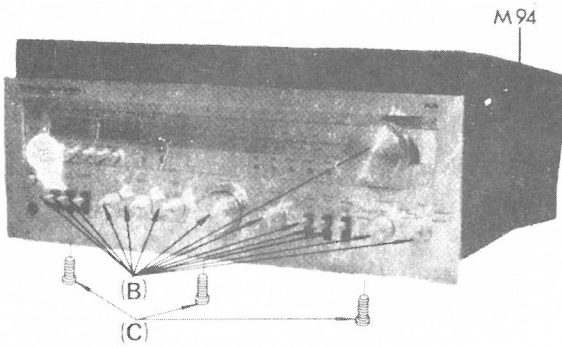

Figure 3
2. Remove wood cabinet. See Figure 3.
1. Remove 14 knobs (B).
2. Remove 3 mounting screws (C), see Figure 3.